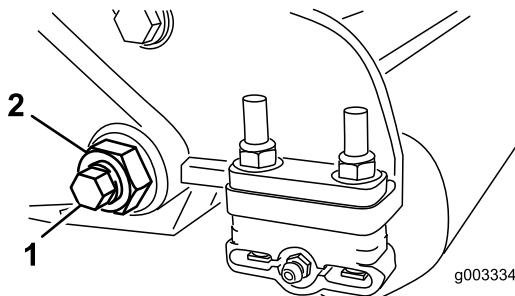
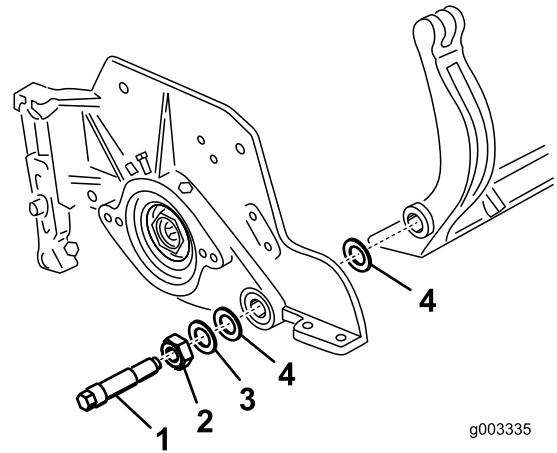

Figure 35
Figure 36
3. On each side of the machine, loosen the lock nut securing the bedbar bolt (Figure 35).
4. Remove each bedbar bolt allowing bedbar to be pulled downward and removed from machine bolt (Figure 35). Account for 2 nylon and 1 stamped steel washers on each end of bedbar (Figure 36).
Note: A nylon washer is to be positioned on each side of side plate boss. Place a steel washer outside each of the nylon washers (Figure 36).